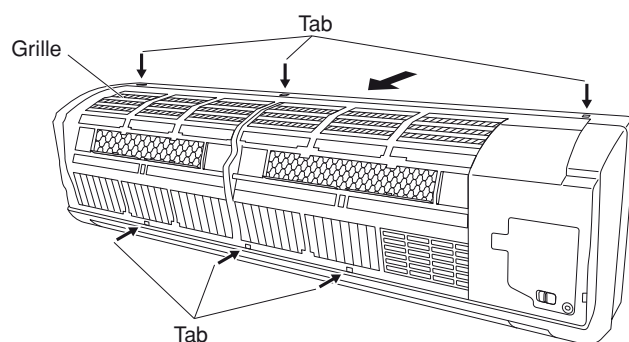

Fig. 18a-2
- (3) Press the 3 tabs at the top of the grille and the 3 tabs on the front face to separate the grille from the frame. (Fig. 18a-2)
- (4) Pull the grille towards you to remove it. (Fig. 18a-2)